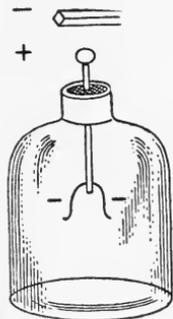

FIG. 1.
13. An *electroscope* is used to discover the presence of a charge; an *electrometer* measures the quantity of electricity in a charge. An electroscope is necessarily a very sensitive instrument. The one shown in fig. 1 consists of a glass jar, through the stopper of which a brass rod extends into the interior of the jar. At the lower end of the brass rod two narrow strips of gold leaf are attached.